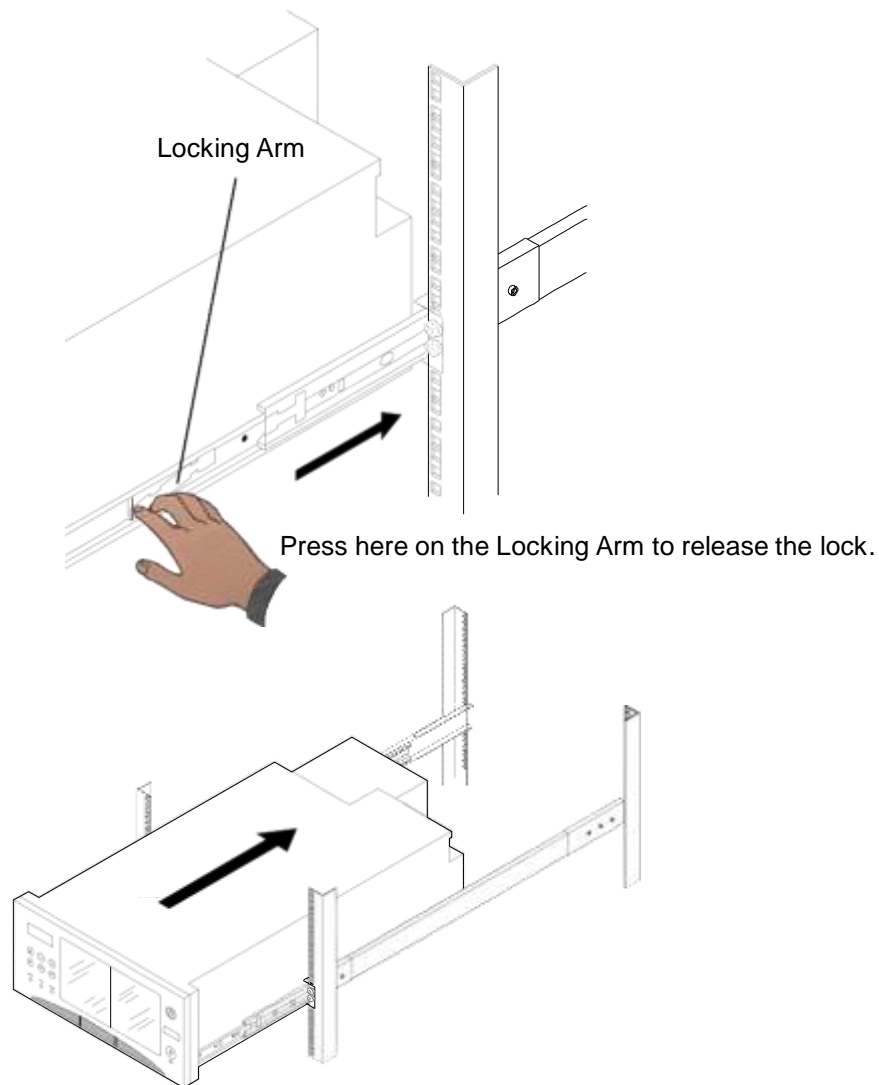

Figure 5-27 Detail of Locking Arm When Installing Library
4. Press the locking arms on both slide assemblies to release the locks, and then slide the library all the way into the rack. Refer to Figure 5-27.